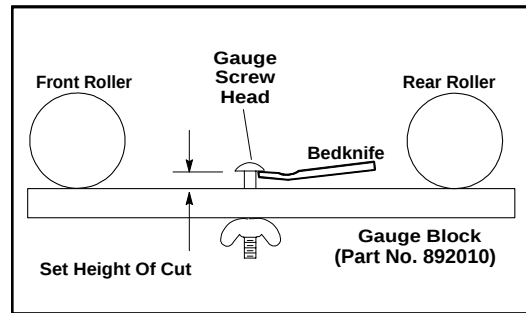

Figure 18
1. Set the height of cut on the gauge block by turning the wingnut until the distance between the bottom of the screw head and the top of the gauge block equals the desired height of cut (See Fig. 18).
3. Hold the gauge block across the bottom of both the front and rear rollers near the roller adjustment bracket and adjust the front roller until the cutting edge of the bedknife comes up to touch the bottom of the gauge screw head (See Fig. 18).